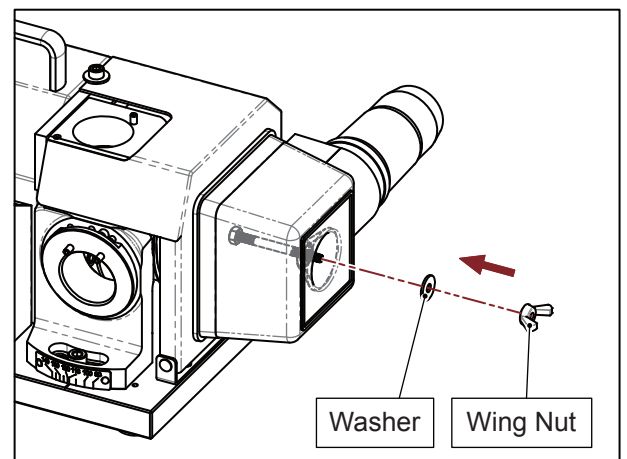

Fig. 3-3
- 3) Assemble the washer and wing nut and tighten the wing nut to secure the dust collection adapter. (Fig. 3-3)